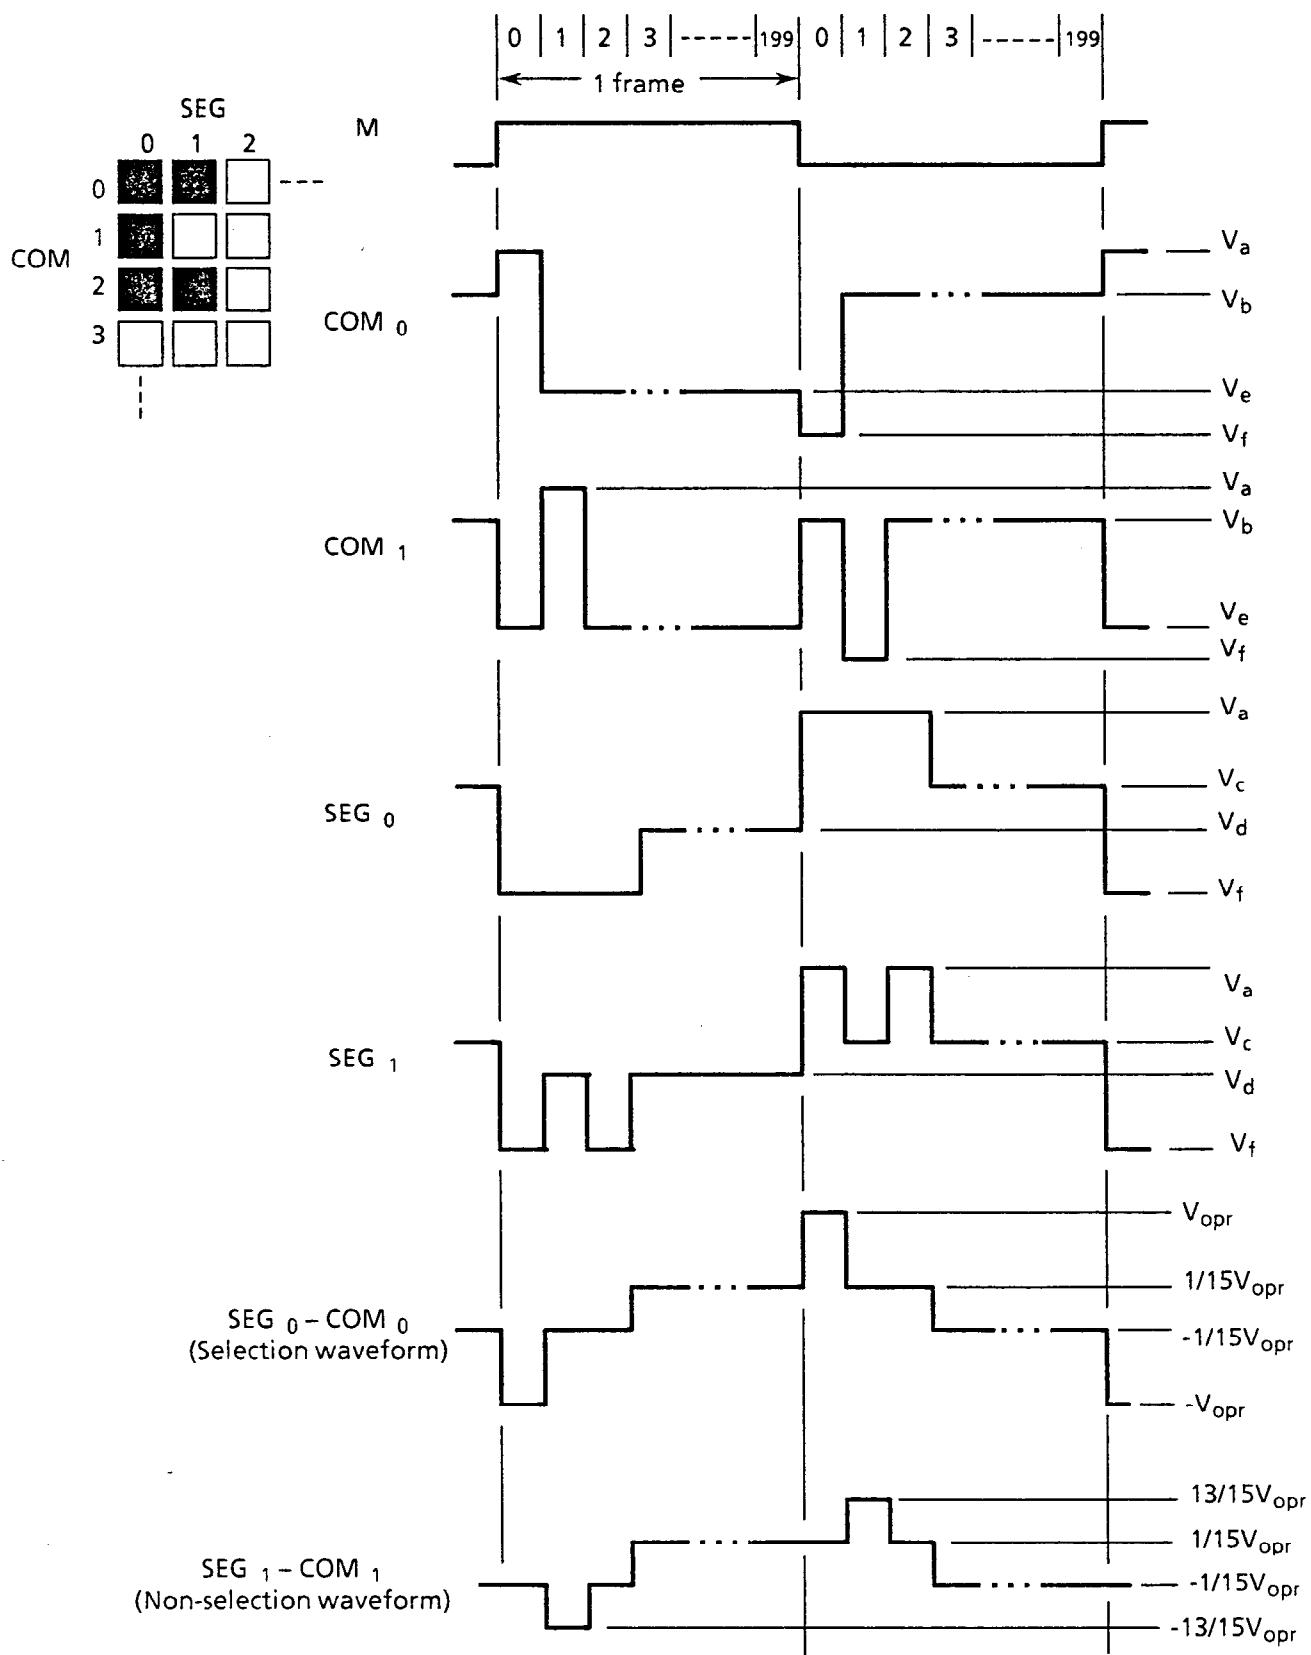

Figure 2 Drive waveform
The drive waveform of the LCD panel is shown in Figure 2 on the next page. Since DC voltage will damage the liquid crystal, an AC voltage is applied between the two frames. The signal controlling this is the liquid crystal AC drive control signal (M).
The G648D has a 1/200 duty cycle, and the common electrodes are selected within a frame by time division from electrode 1 to electrode 200. This is called line sequential scanning. The voltage level of the segment electrodes determines whether the dots at the intersection of the segment electrodes are selected or not, when the common electrode is selected. As shown in Table 1, there are six drive waveform voltage levels, V_a to V_f. The voltage level is determined by the bias value. The voltage between the segment and common electrodes is thus applied to the liquid crystal. The selection waveform for SEG₀-COM₀ and the non-selection waveform for SEG₁-COM₁ are shown in Figure 2. The size of the effective voltage of the waveform determines whether the liquid crystal under the selected dots is in the selection or non-selection state.